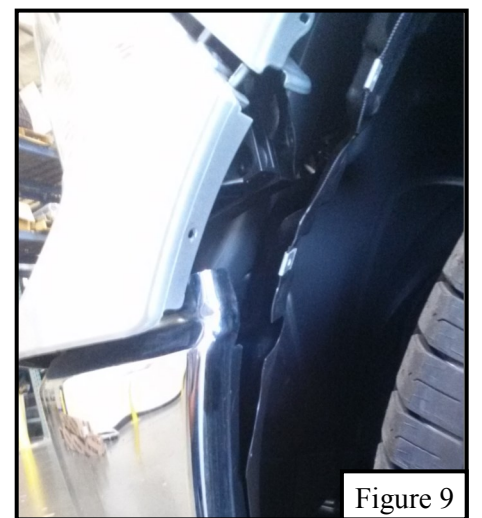

Figure 9
8. Carefully pull off the filler panel. See **Figure 9 & 10**